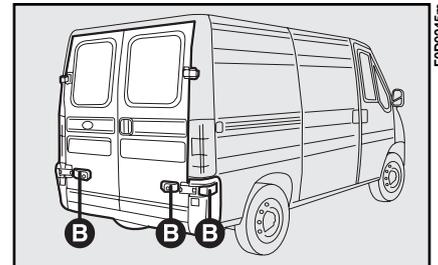

fig. 129
- Open the door fully against the sides; two magnetic pads **B-fig. 129** will hold the door open.